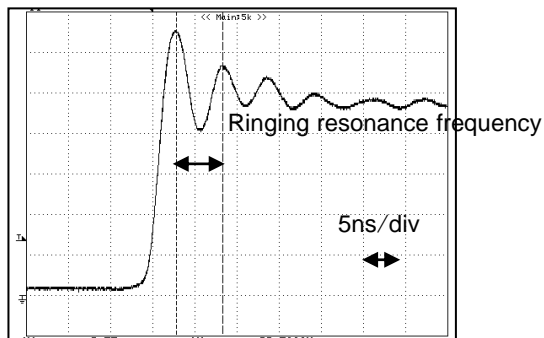

Figure 77. PWM Output waveform
- ① Measure the ringing resonance frequency f_1 of the PWM output wave shape (When it stands up.) by using FET probe in the OUT terminal. (Figure 77) The FET probe is to monitor very near pin and shorten ground lead at the time of that.
- ② Measure resonance frequency f_2 of the ringing as a snubber circuit fixed number $R=0\Omega$. (Only with connecting the capacitor C to GND) At this time, the value of the capacitor C is adjusted until it becomes half of the frequency ($2f_2=f_1$) of the resonance frequency f_1 of ①. The value of C which it could get here is three times of the parasitic capacity C_p that a ringing is formed. ($C=3C_p$)
- ③ Parasitic inductance L_p is looked for at the next formula.